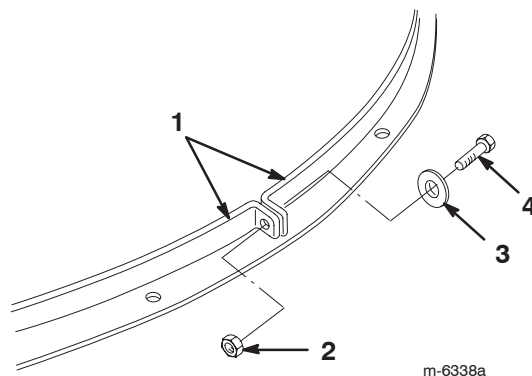

Figure 15
9. Remove the bolt, washer, and nut that secure the 2 strap ends together (Fig. 15).
13. Join the 2 strap ends around the Recycler cover as shown (Fig. 15).
8. Remove the bolt, washer, and nut that secure the 2 strap ends together (Fig. 15).
14. Join the 2 strap ends around the discharge chute as shown (Fig. 15).
15. Align the holes in the strap ends and fasten them together snugly with the bolt, washer, and nut you previously removed (Fig. 15).